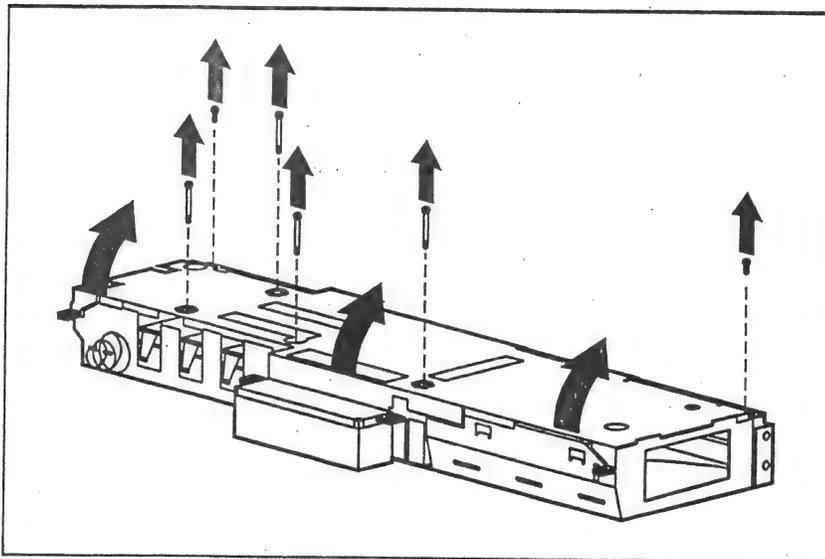

Figure 2-57. Opening the System Module
2. Using a Torx T-8 screwdriver, remove two short screws and four long screws from the system module cover (Figure 2-57).
3. Remove the system module cover (Figure 2-57).